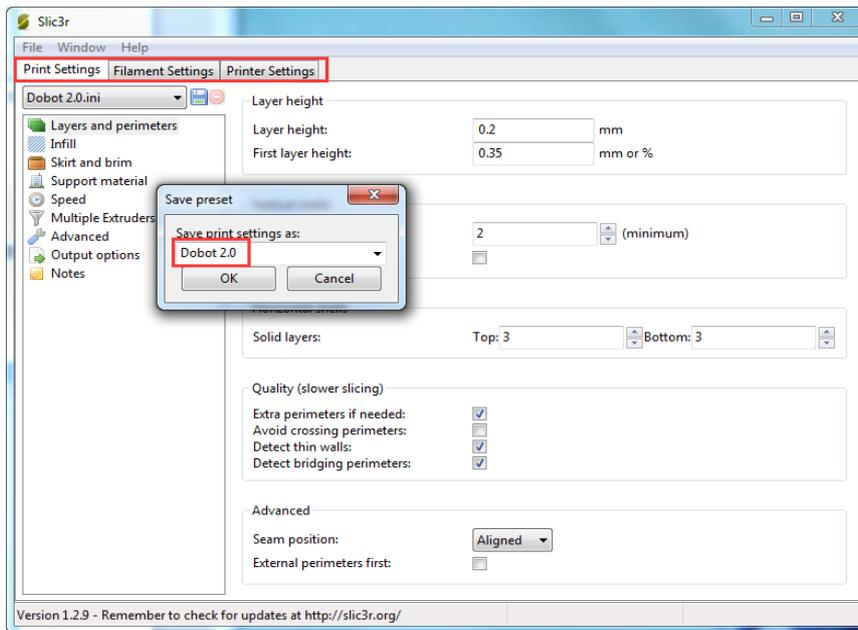

Figure 5.102 Save configuration file
3. Save the Printing Settings, Filament Settings and Printer Settings tabs respectively after importing configuration sample, as shown in Figure 5.102.